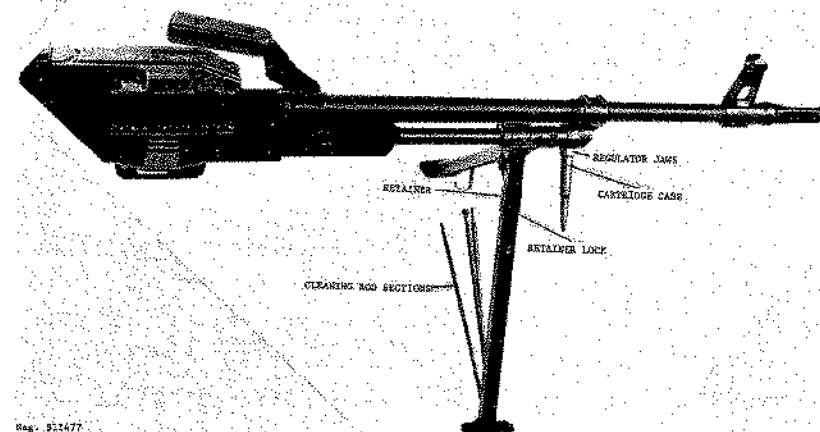

Figure 178. Adjustment of gas regulator.
f. The PK series guns have adjustable gas regulators, of which there are two types in use, one found on the PK, PKB, and PKS, the other on the PKT. Each regulator has the numbers 1, 2, and 3 inscribed on it. The PK type has a sleeve-type regulator (fig 178) that bleeds off excessive gas. To adjust this regulator, engage the rim of a 7.62x54-mm cartridge case in the regulator jaws (fig 178), and using this as a handle, rotate the regulator as necessary.
The detent tab (fig 178) covers the number which indicates the setting. Clean guns normally operate on the "1" setting; use the higher numbers for dirty guns or cold weather, and (for short bursts) antiaircraft firing. The rotary regulator of the PKT (fig 174) is changed by removing the cotter pin (if present) in the nut on the left side of the regulator, loosening the nut until the regulator can be tapped to the right sufficiently to disengage it from the detent. Rotate the regulator to the desired setting as indicated by the number that aligns with the detent. Tighten the nut and replace the cotter pin.
e. The PK and PKB carry a sectional cleaning rod in the bipod. Press the retainer lock (fig 178) and slide the retainer upward; the rod sections will fall out of the bipod leg. Screw the rod sections together for use.